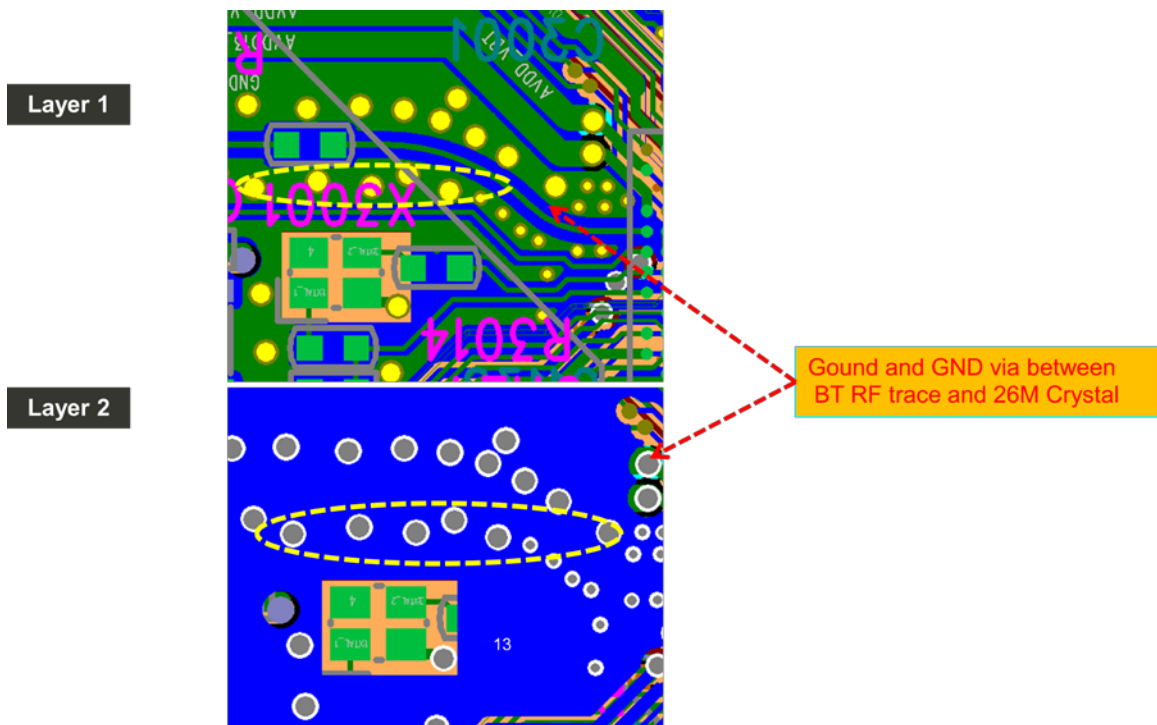

Figure 17. The ground vias between crystal oscillator and antenna trace
- 5) Add ground vias between the Bluetooth antenna trace and crystal oscillator for signal isolation and for noise reduction. The ground vias are close to the RF trace to reduce other signal impact, as shown in Figure 17.